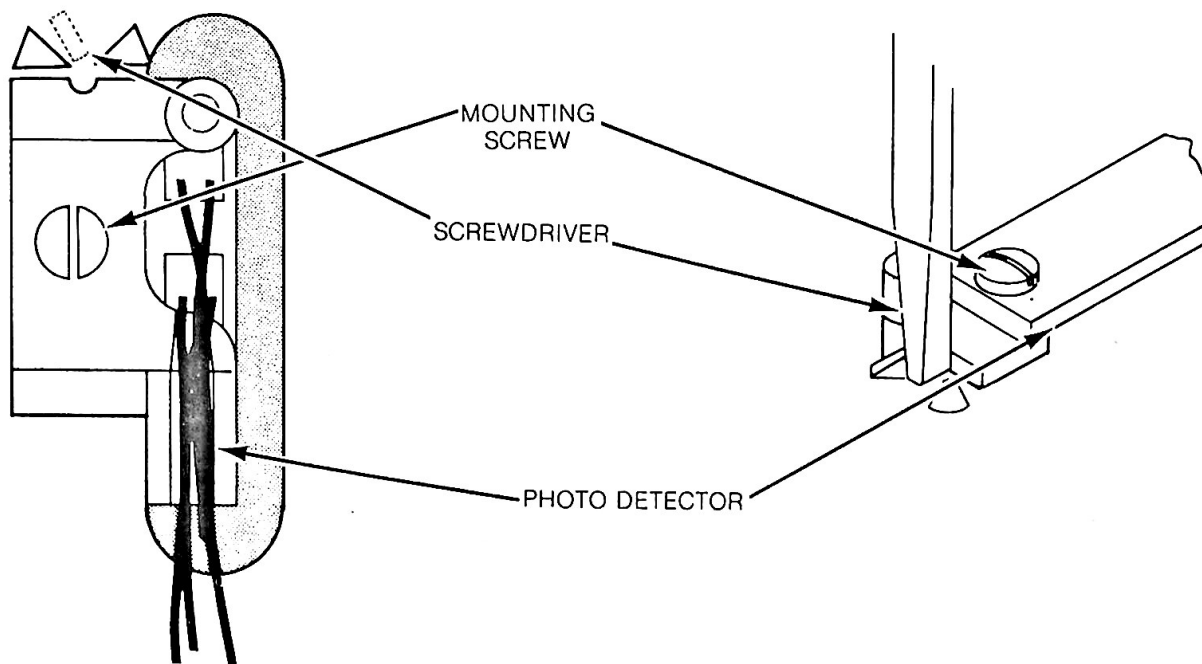

FIGURE 31. TRACK ZERO ADJUSTMENT
- f. If TP8 fails to go high, adjust the photo detector by loosening the mounting screw and positioning it via the pry blocks (reference Figure 31).